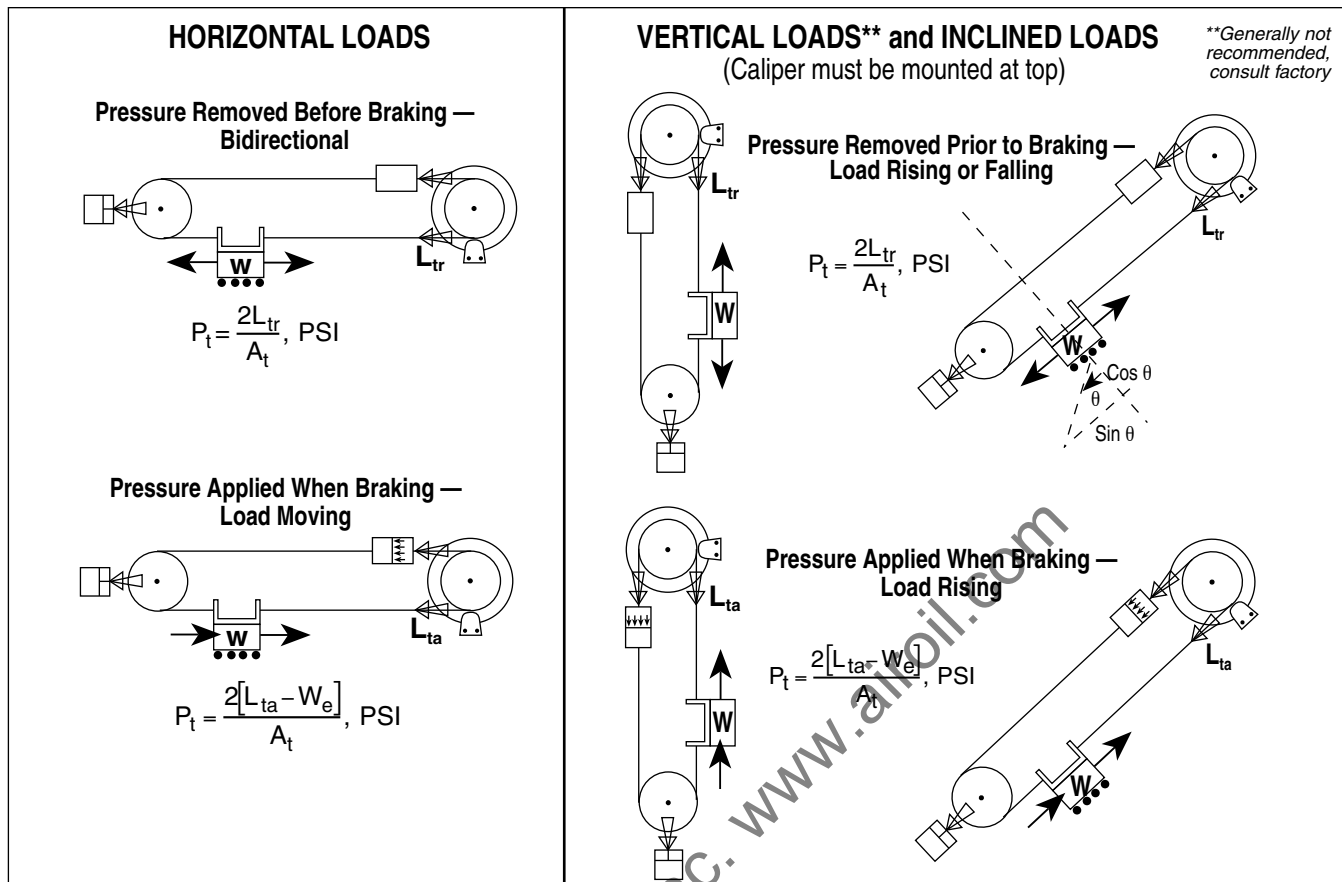

Figure 1
3. Calculate the tangential braking force required. This is ( $F_{tr}$ ) when pressure is removed prior to braking, or ( $F_{ta}$ ) when pressure is still applied when braking. Refer to illustrations in Figure 1.
5. Calculate tensioner pressure setting, ( $P_t$ ) based on type of load configuration. See Figure 1 and Table 1